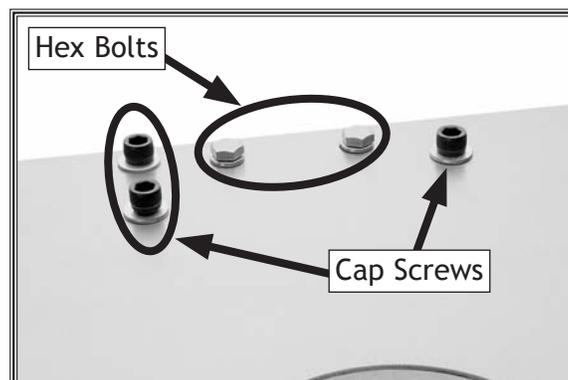

Figure 13. Fence and safety guard mounting fasteners.
1. Remove the two hex bolts, three cap screws, lock washers, and flat washers from the back of the table top (see **Figure 13**).